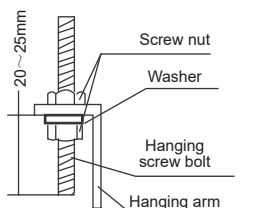

Fig.5-9
- Locate the hanging arm on the hanging screw bolt. (Refer to Fig. 5-9)